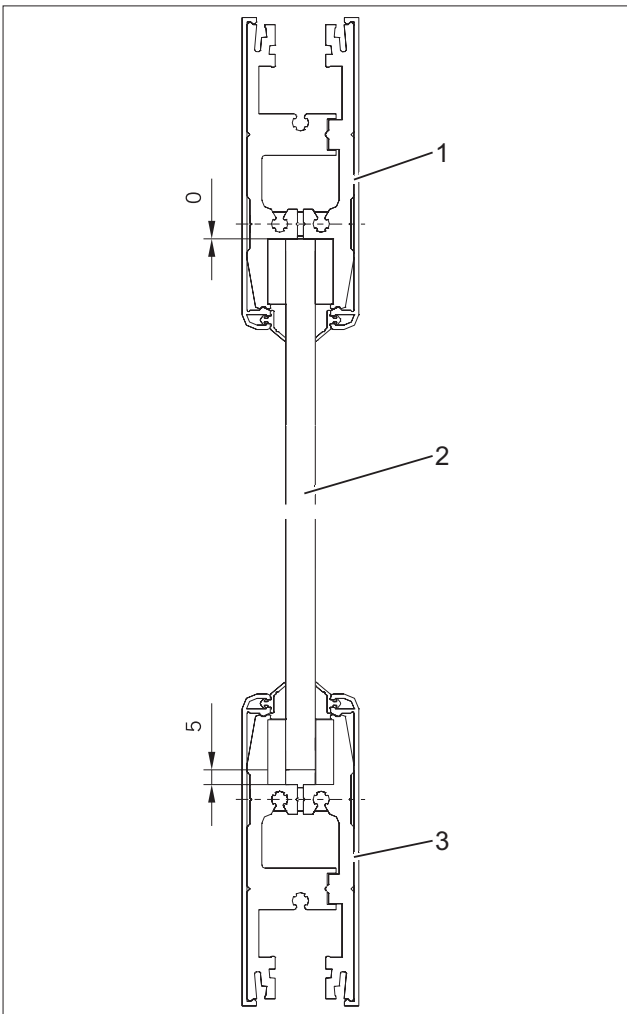

Fig. 8 Sliding on the door rail
- Slide on the upper door rail (Fig. 8/1) on the top side of the glass pane (Fig. 8/2) up to the stop (Fig. 8).
- Slide on the lower door rail (Fig. 8/3) on the bottom side of the glass pane (Fig. 8/2) up to 5 mm (Fig. 8).